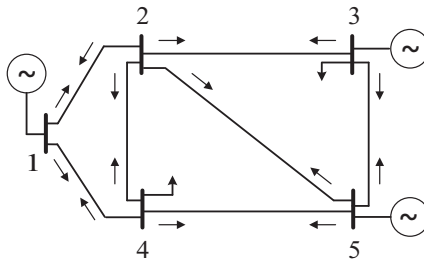

Figure 5.26 The power transmission network in Exercise 5.20.
- 5.20** Consider the 5-bus transmission network in Figure 5.26. Suppose we measure apparent power flow at both ends of each transmission line. The measurements are given in Table 5.10. Estimate all the states of the system, i.e., the voltage magnitude and phase angle at all buses. Consider bus 1 as the reference bus. The voltage at bus 1 is measured at $1.077\angle 0^\circ$ per unit.